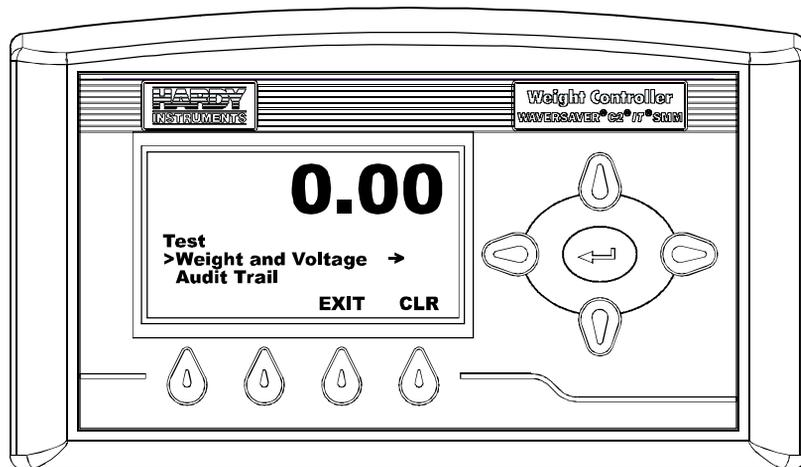

FIG. 397 TEST MENU/SELECTING WEIGHT AND VOLTAGE
Step 14. To perform the Weight and Voltage test for the system, press the down arrow until the cursor is in front of "Weight and Voltage". (See Fig. 397)